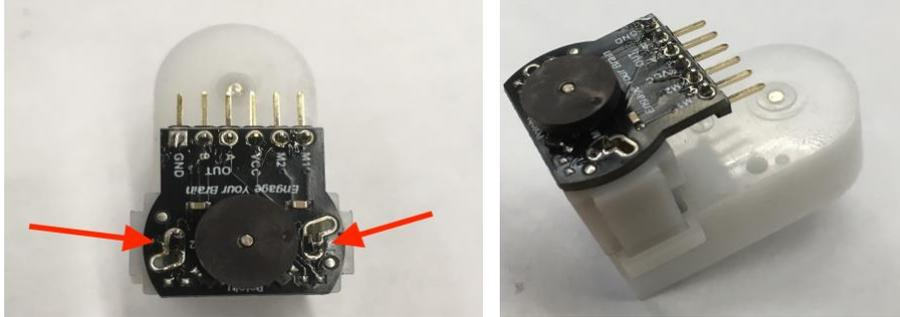

Figure 3: Soldering two pins of the motor gearbox onto the encoder PCB.
- Solder the two pins extruding from the back of the white motor gearbox to the encoder PCB. See locations indicated by red arrows in Fig. 3.